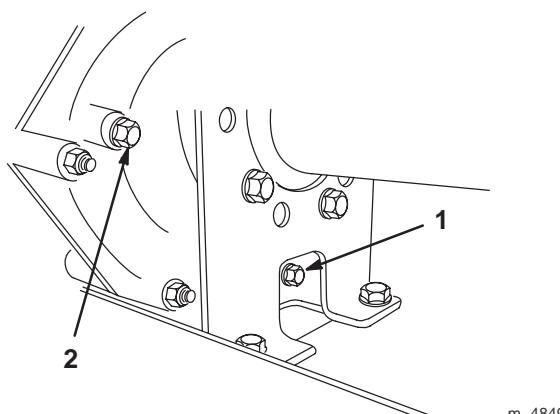

Figure 31
- Remove the drain plug from the right side of the reservoir (Fig. 31) and let the fluid flow into a drain pan. Install and tighten the plug when the fluid stops draining.
- Fill the reservoir (Fig. 32) with approximately 1-1/2 qt. (1.4 liters) of SAE 10W30 motor oil or until the oil level is at the bottom of the level indicator hole (Fig. 31).